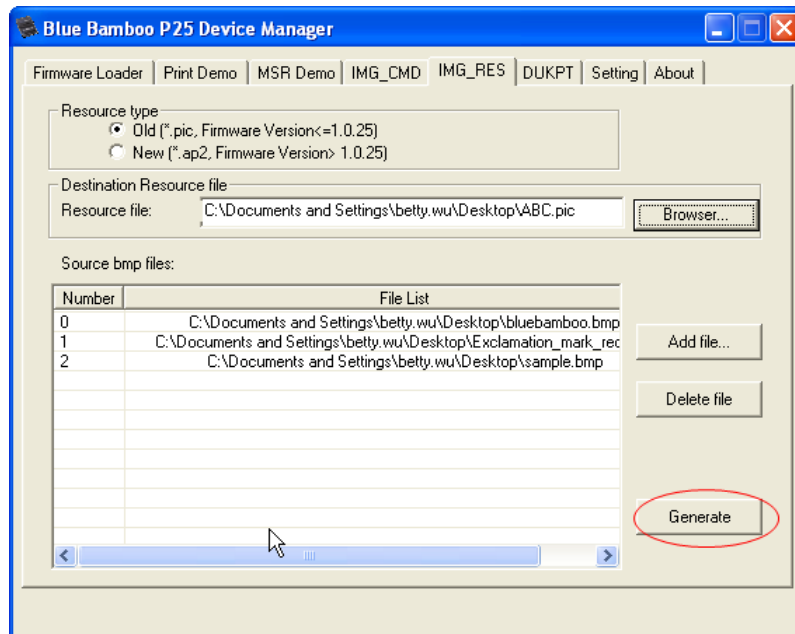

Figure 44
- g. Click **Generate** to generate the resource file. All the bmp files in the file list will be uploaded to the resource file. (Figure 44)